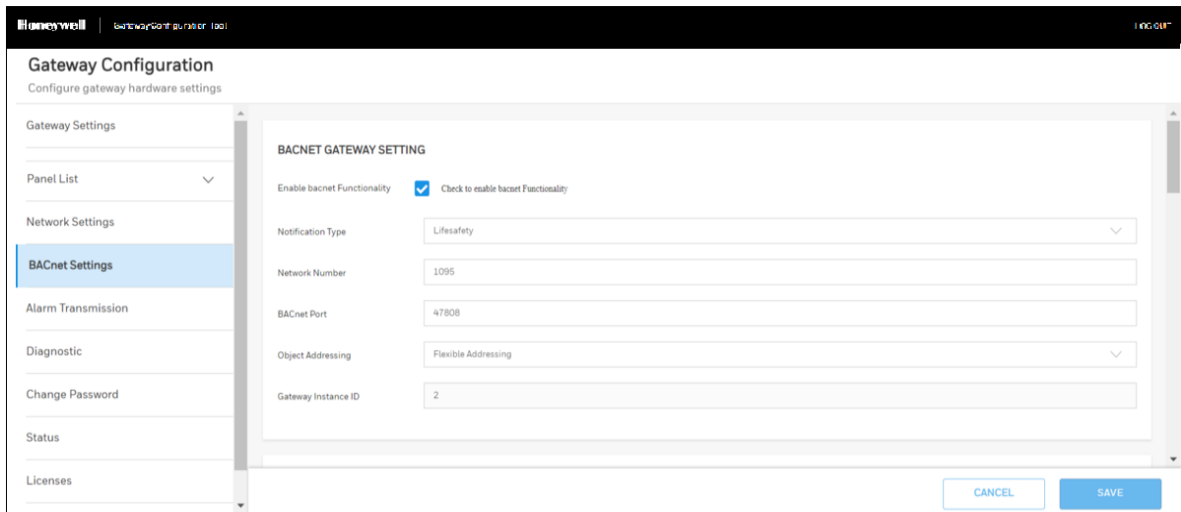

Figure 8.6: BACnet Gateway Settings Screen
- Find and click **BACnet Settings** in the **Gateway Settings** section as shown in Figure 8.6.